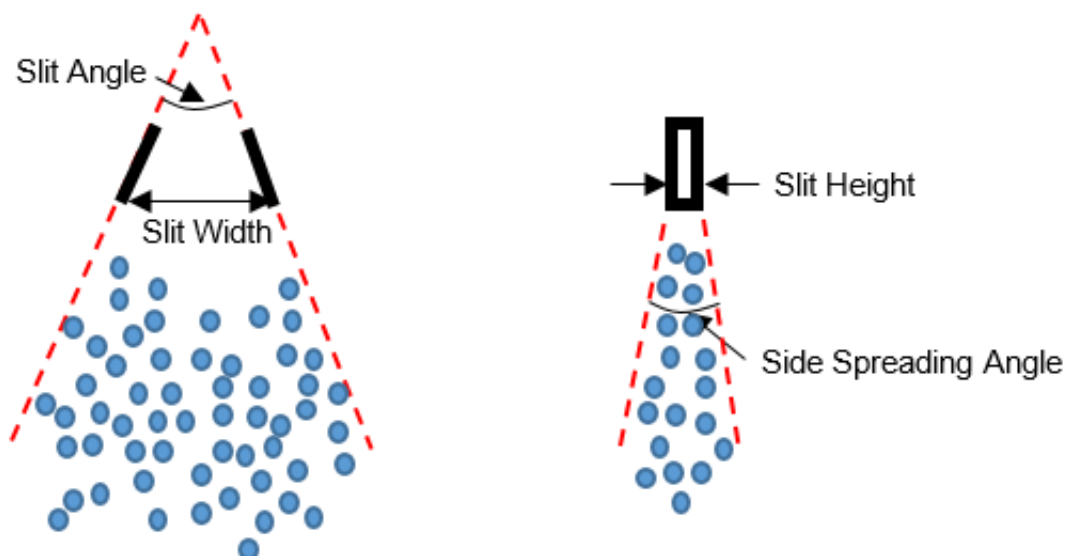

FIGURE 3.11: DEFINITION OF SEVERAL INJECTION AND NOZZLE PARAMETERS FOR SLIT INJECTORS (LEFT: FRONT VIEW; RIGHT: SIDE VIEW)
- **Slit Angle:** Only for fan sprays. It is the Slit Injector nozzle opening angle, which determines the spray's main fan angle as well. See **Figure 3.11: Definition of several injection and nozzle parameters for slit injectors (Left: front view; Right: side view)** (Left).
- **Side Spreading Angle:** Only for fan sprays. This function defines the angle of dispersion of sprays relative to the fan axis. See **Figure 3.11: Definition of several injection and nozzle parameters for slit injectors (Left: front view; Right: side view)** (Right).